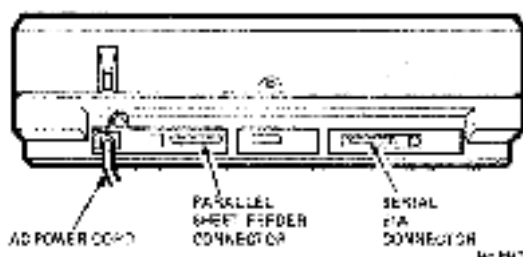

Figure 2-8 Power Cord and Connector Locations
2. Disconnect all cables from rear panel (Figure 2-8).
1. Disconnect all cables from rear panel (Figure 2-8).